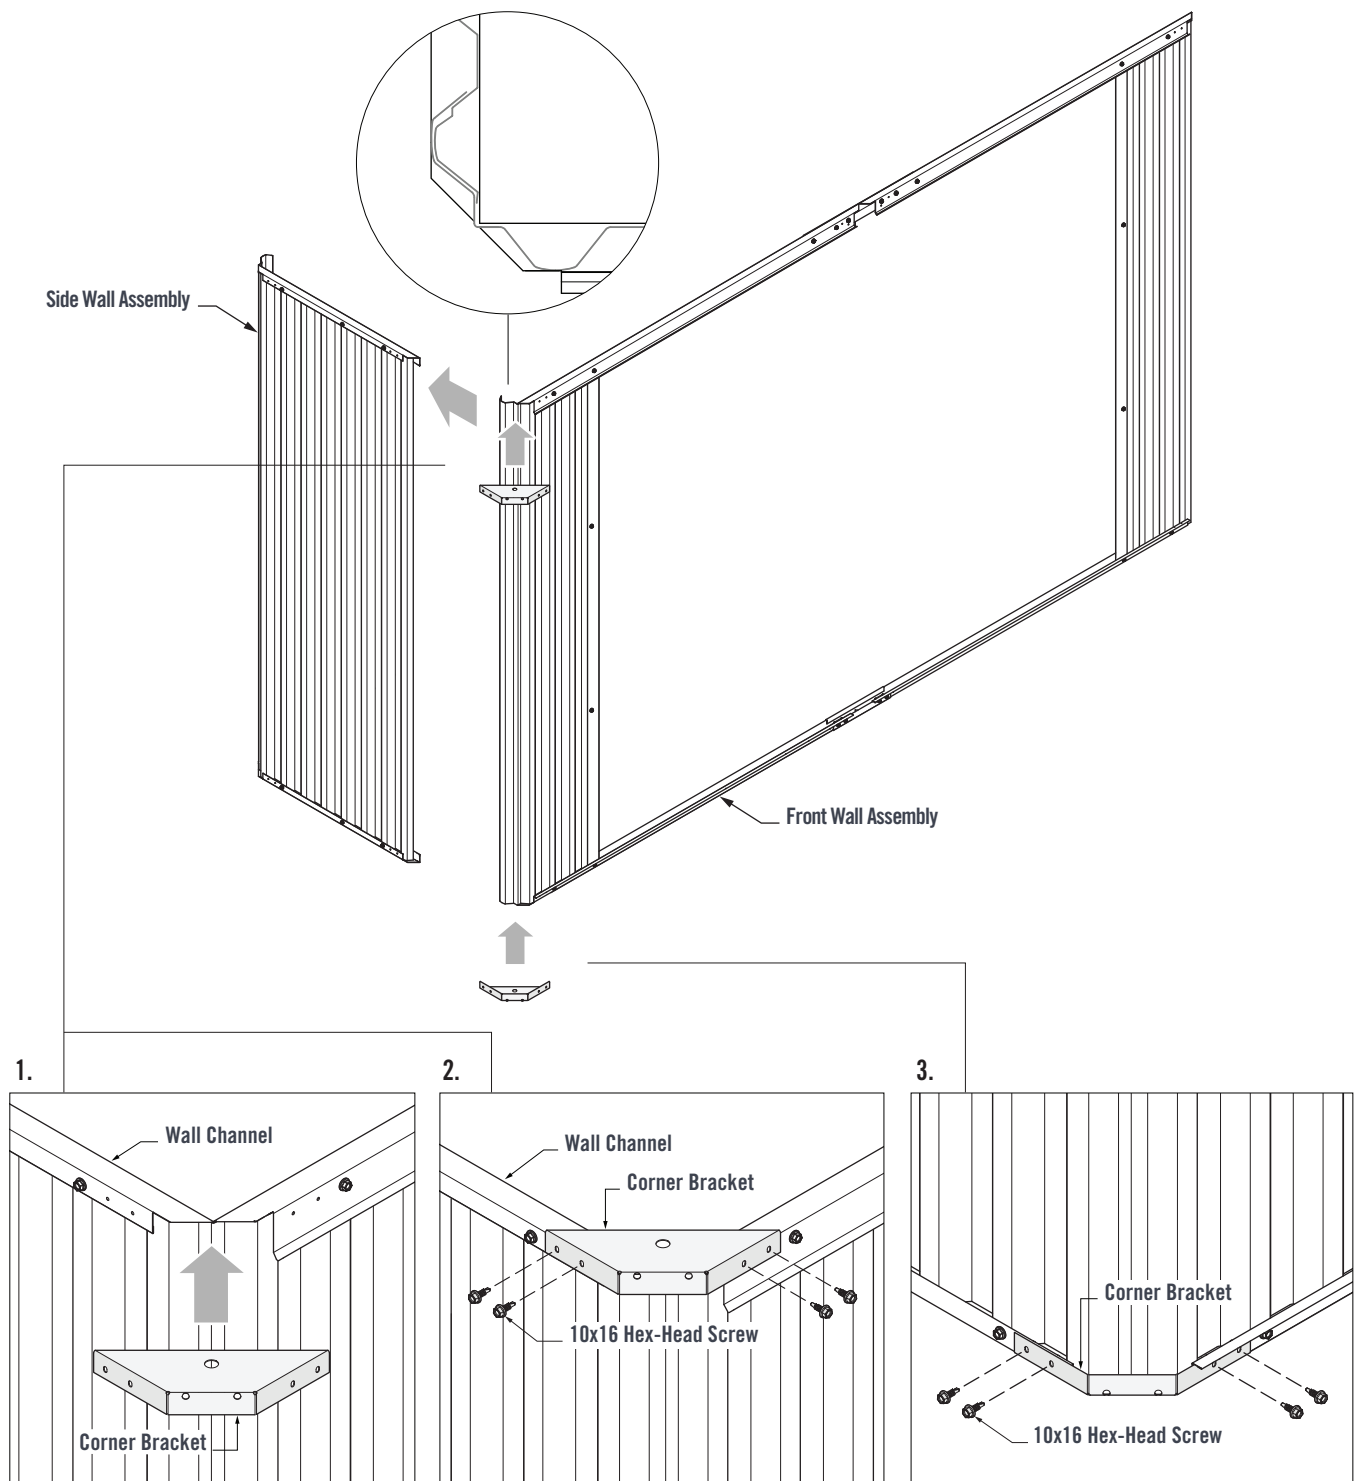

FIGURE 8.0
1. Fit a Corner Bracket over the top Channels. Ensure the pilot holes of the Corner Bracket and Channels line up (Figure 8.0).
2. Fasten through the Corner Bracket pilot holes and into the top Channels using four 10x16 Hex-Head Screws (Figure 8.0).
3. Fit a Corner Bracket to the bottom Wall Channels. Fasten through the Corner Bracket pilot holes and into the bottom Wall Channels using four 10x16 Hex-Head Screws (Figure 8.0).
Fit the Remaining Wall Assemblies together with Corner Brackets as per Figure 8.0.